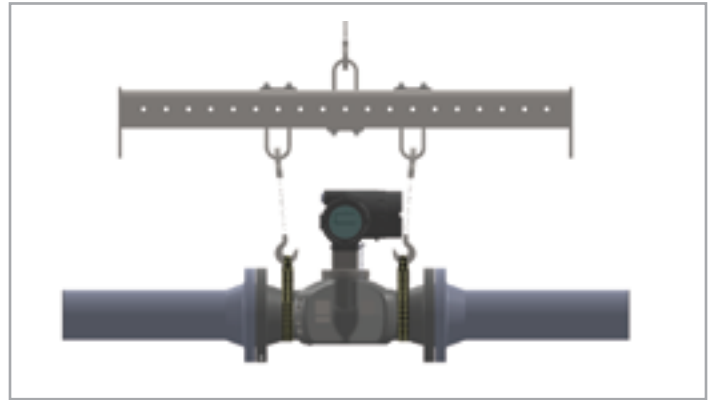

Figure 12: Lifting strap locations
To avoid possible strain, refer to the Sentinel LCT4 label for the assembly weight, use a properly-rated lifting assembly, and place the lifting straps in the indicated locations (see Figure 12 below).
- Make sure the **Sentinel LCT4** is oriented with the flow transmitter in a vertical position at the top, as shown in Figure 12 below.